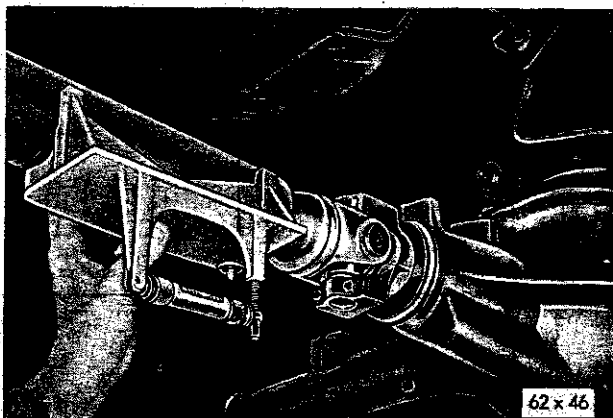

Fig. 10—Measuring the Propeller Shaft Angularity
(4) Hold the gauge on the underside of the propeller shaft near the rear universal joint (Fig. 10), and check the location of the bubble in the spirit level. The entire bubble should be within three graduations from center.
(5) If the edge of the bubble is forward of the third graduation, the angle of the rear axle housing should be changed. Loosen all "U" bolt nuts and in-
(5) Hold the gauge tool in contact with the propeller shaft, near the rear universal joint (Fig. 10). The entire bubble should be within three graduations from center.
(6) If the edge of the bubble is forward of the third graduation, the angle of the rear axle housing should be changed. Loosen all "U" bolt nuts and install two-degree tapered shims between both rear springs and the rear axle housing pads with the thick end of the shim toward the front of the car. Tighten the "U" bolt nuts to 55 foot-pounds torque.
(7) Install enough shims to fill the space between the struts and the frame brackets. Tighten the bracket bolts.
(8) Recheck the rear joint angle, then install the
(1) Hold the gauge tool in contact with the rear propeller shaft, near the rear universal joint and adjust the gauge to center the bubble (Fig. 10).